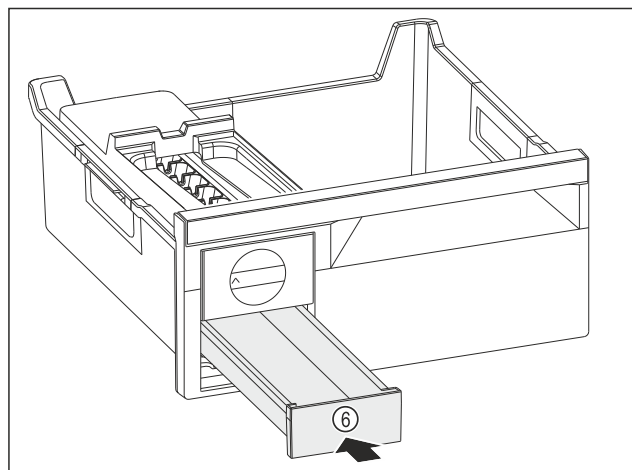

Fig. 90
- Insert the ice cube drawer Fig. 90 (6).